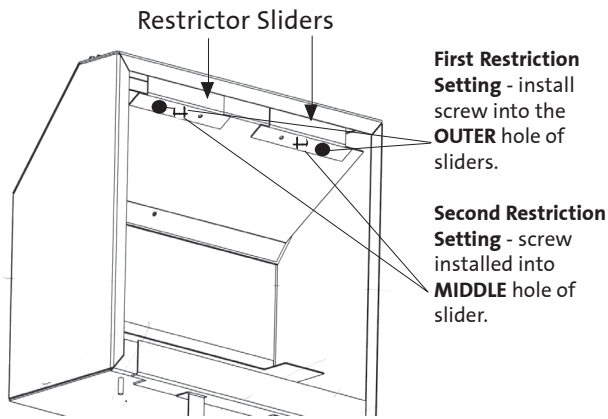

Figure 5. Vent restrictor settings.
- It may be necessary to add restriction to a vertical venting installation, so that the draft is not too strong and creates incomplete combustion. The Allagash is equipped with sliding restriction plates that can be adjusted to compensate for excessive draft. See Figure 5.